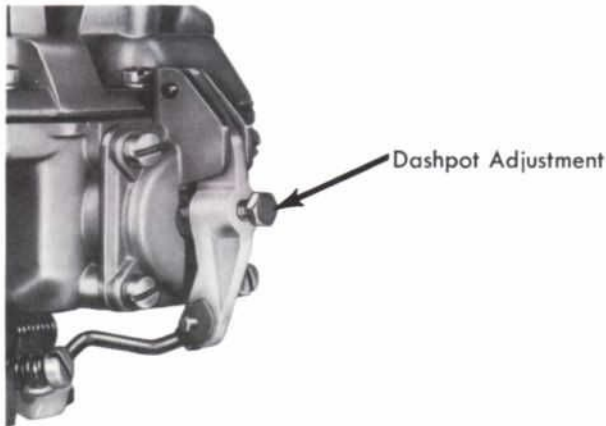
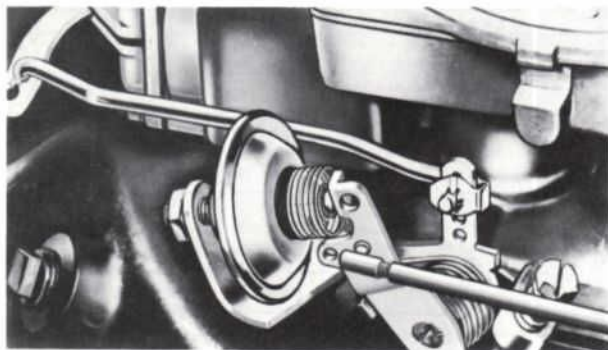

Figure 1—Ford 1-V Integral Anti-Stall Dashpot
Figure 2—Ford 2-V and 4-V Anti-Stall Dashpot
- Single barrel (1-V) carburetors have an integral built-in dashpot (Figure 1). Multi-barrel carburetors have an external dashpot (Figure 2).